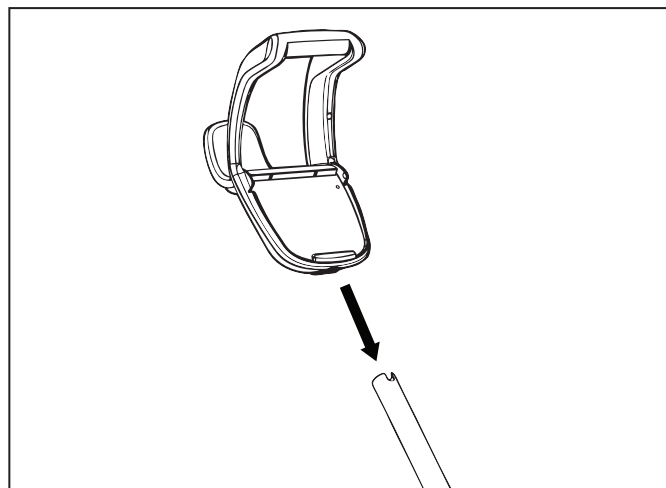

Figure 6. Attach Caddy Handle
7. Slide the Control Unit base / caddy handle attachment down over the metal tubing until it snaps into place (Figure 6).